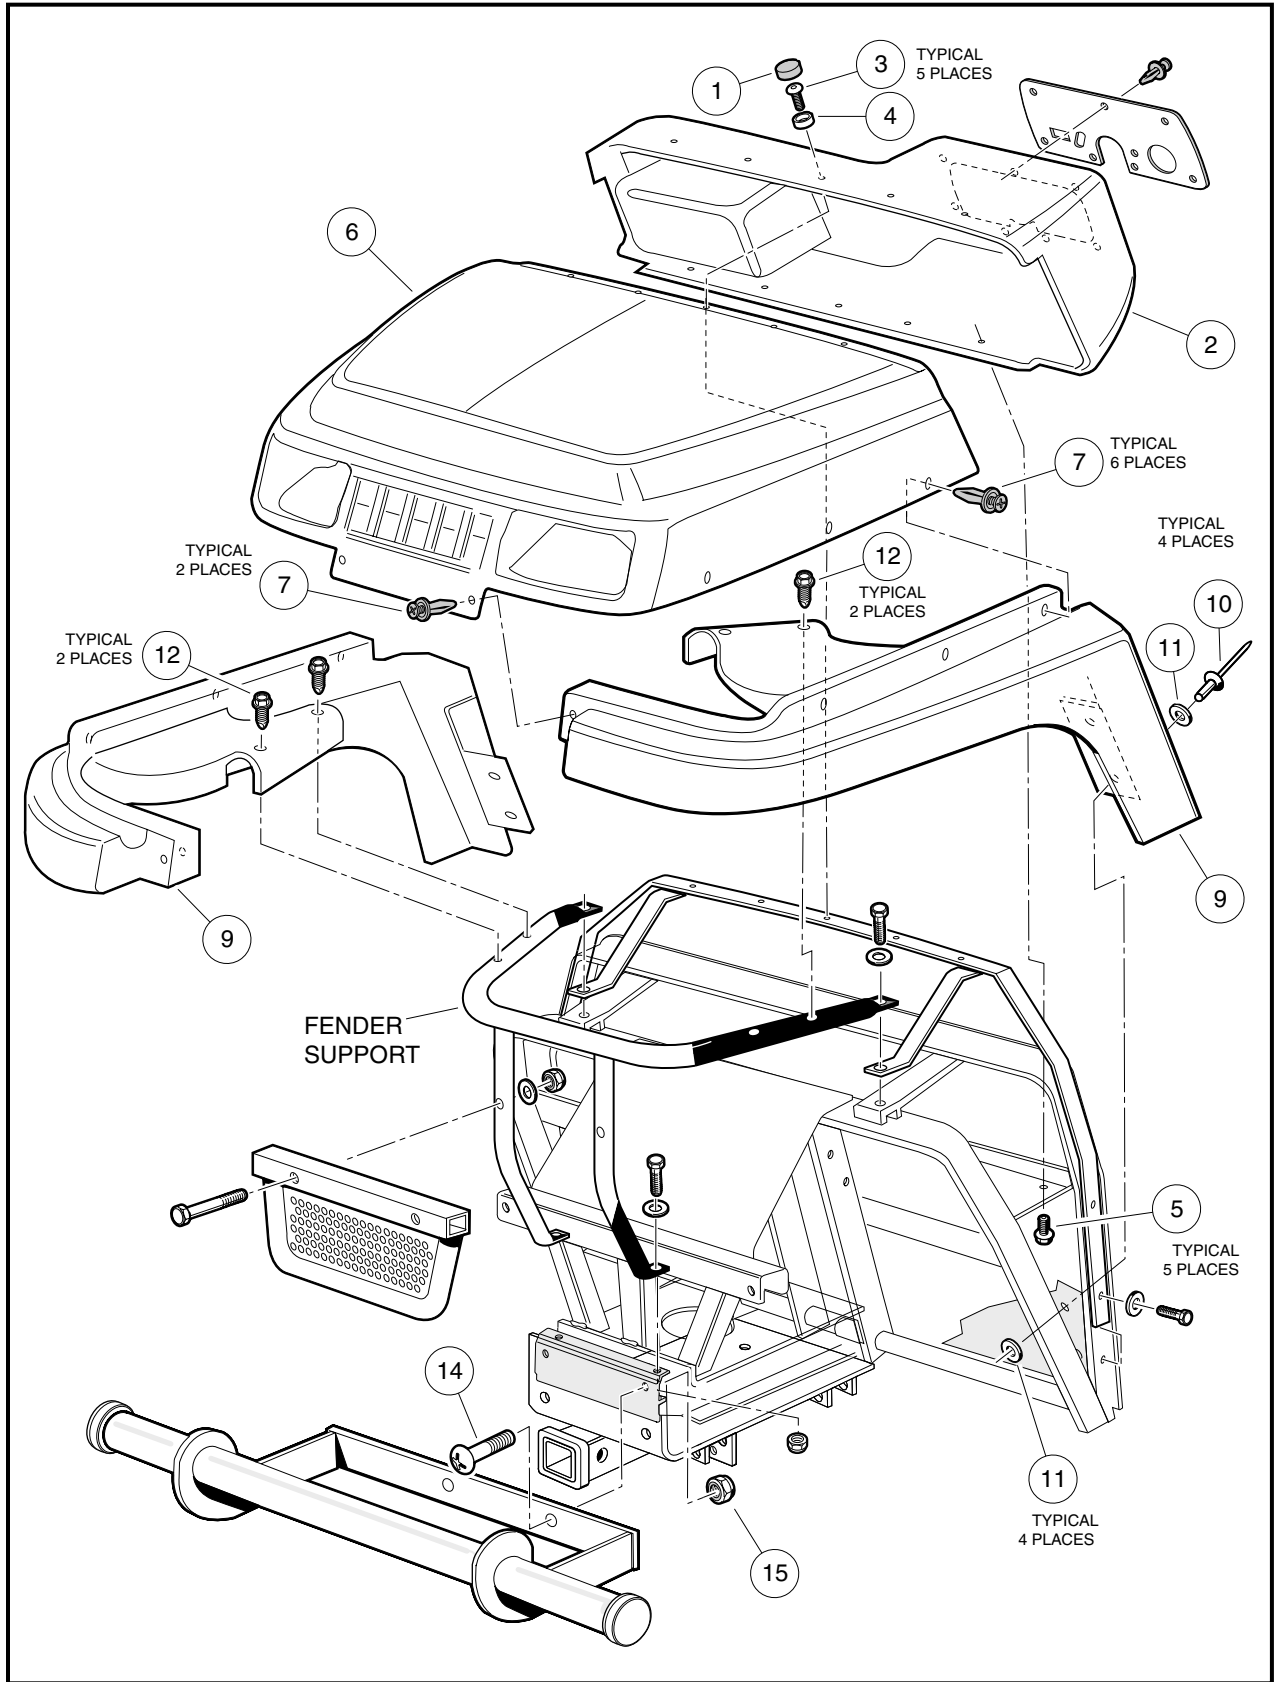

Figure 4-2 Front Body Assembly
1. Remove the two truss-head screws (14) and nuts (15) that secure the tube bumper to the vehicle frame (**Figure 4-2, Page 4-7**).
1. Installation is the reverse of removal. Tighten the two nuts (15) to 15 ft-lb (20.3 N·m) (**Figure 4-2, Page 4-7**).
4. Remove five caps (1) from top of dashboard (2) (**Figure 4-2, Page 4-7**).
5. Using a Torx #T-30 driver, remove screws (3) and special plastic washers (4) from top of dashboard (2).
6. Using a 5/16 nut driver, remove five screws (5) from underside of dashboard and pull dashboard away from front body (6).
1. Install dashboard (2) and tighten screws (5) to 11 in-lb (1.2 N·m) (**Figure 4-2, Page 4-7**).
2. Using a Torx #T-30 driver, secure dashboard to front body with five Torx-head screws (3) and special plastic washers (4). Tighten screws to 45 in-lb (5.1 N·m).
3. Install five caps (1).
1. Remove five caps (1) from top of dashboard (2) (**Figure 4-2, Page 4-7**).
2. Using a Torx #T-30 driver, remove the Torx-head screws (3) and washers (4) from top of front body (6).
3. Using a 5/16 nut driver, remove five screws (5) from underside of dashboard (2) and gently slide dashboard away from front body (6).
4. Using a phillips head screwdriver, remove the six Tuflok fasteners (7) from sides and two (7) from front of front body (6).
6. Lift the back edge of the body up and pull front body forward to clear dashboard, and lift off vehicle (**Figure 4-2, Page 4-7**).
1. Remove front body (6) (**Figure 4-2, Page 4-7**). See **Front Body Removal on page 4-4**.
2. Pull back floor mat to access rivets securing front fender (9) to frame. Drill out two 3/16 x 5/8 pop rivets (10) and remove two washers (11).
3. Using a 3/8 hex-head socket, remove two screws (12) from fender frame support.
1. Reverse removal procedure to install front fender by locating the fender on the vehicle, aligning the fender panel with the pop rivet hole locations on the frame (**Figure 4-2, Page 4-7**).
2. Tighten two screws (12) using a 3/8 hex-head driver to 50 in-lb (5.7 N·m) (**Figure 4-2, Page 4-7**).
3. Pop rivet fender to frame using two 3/16 x 5/8 pop rivets (10) and two 3/16 rivet washers (11).
1. Place front body (6) onto vehicle and connect the lighting wire harness to each headlight assembly (**Figure 4-2, Page 4-7**).
2. Using a Torx #T-30 driver, secure front body to dashboard with five Torx-head screws (3) and special plastic washers (4). Tighten screws to 45 in-lb (5.1 N·m).
4. Secure front body to fenders with eight Tuflok fasteners (7). To install the Tuflok fasteners, insert into hole and push the head in until it snaps in place.